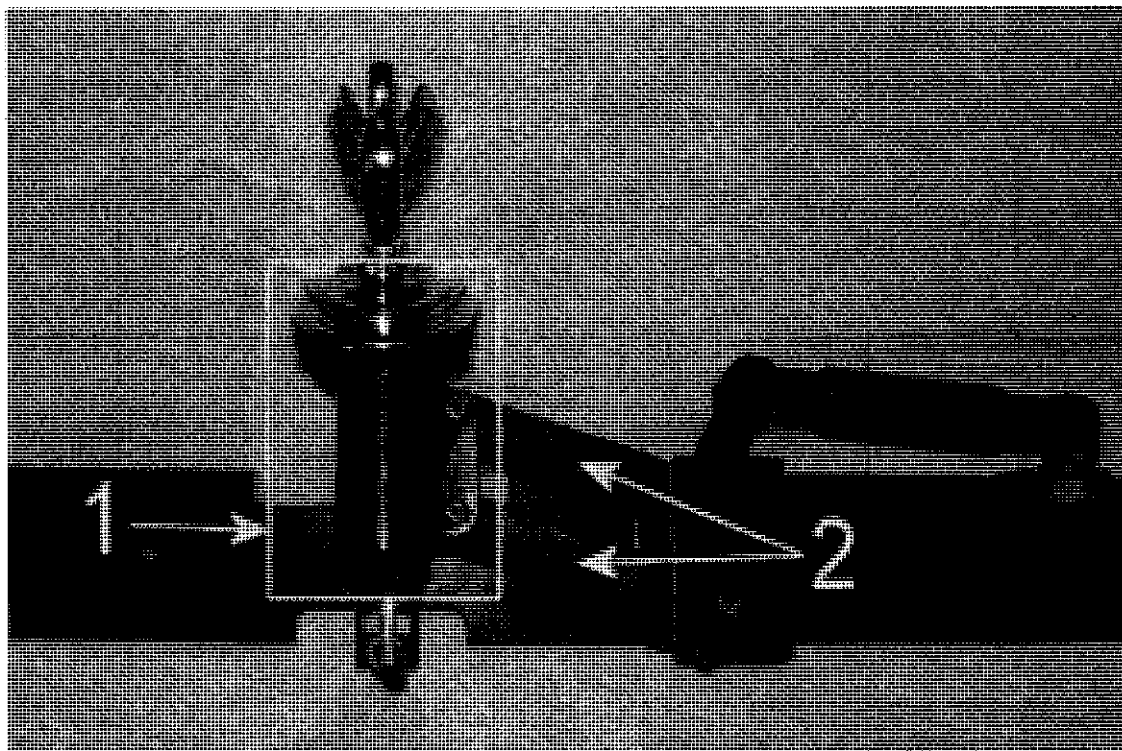

Figure 4
8. The mascot assembly (1) will need to be removed from the retractable mascot mechanism (2) to put onto the new assembly (see Figure 4)